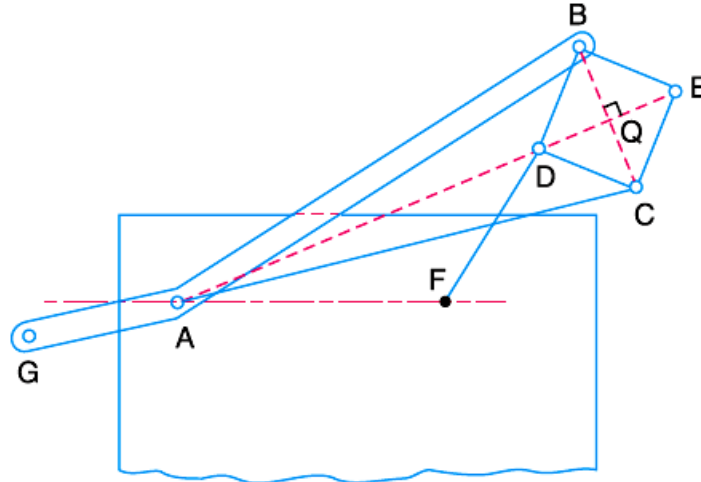

Fig: 3
- 3 a) Fig: 3 shows the link GAB which oscillates on a fixed centre at A and the link FD on a fixed centre at F. The link AB is equal to AC and DB, BE, EC and CD are equal in length. [8M]